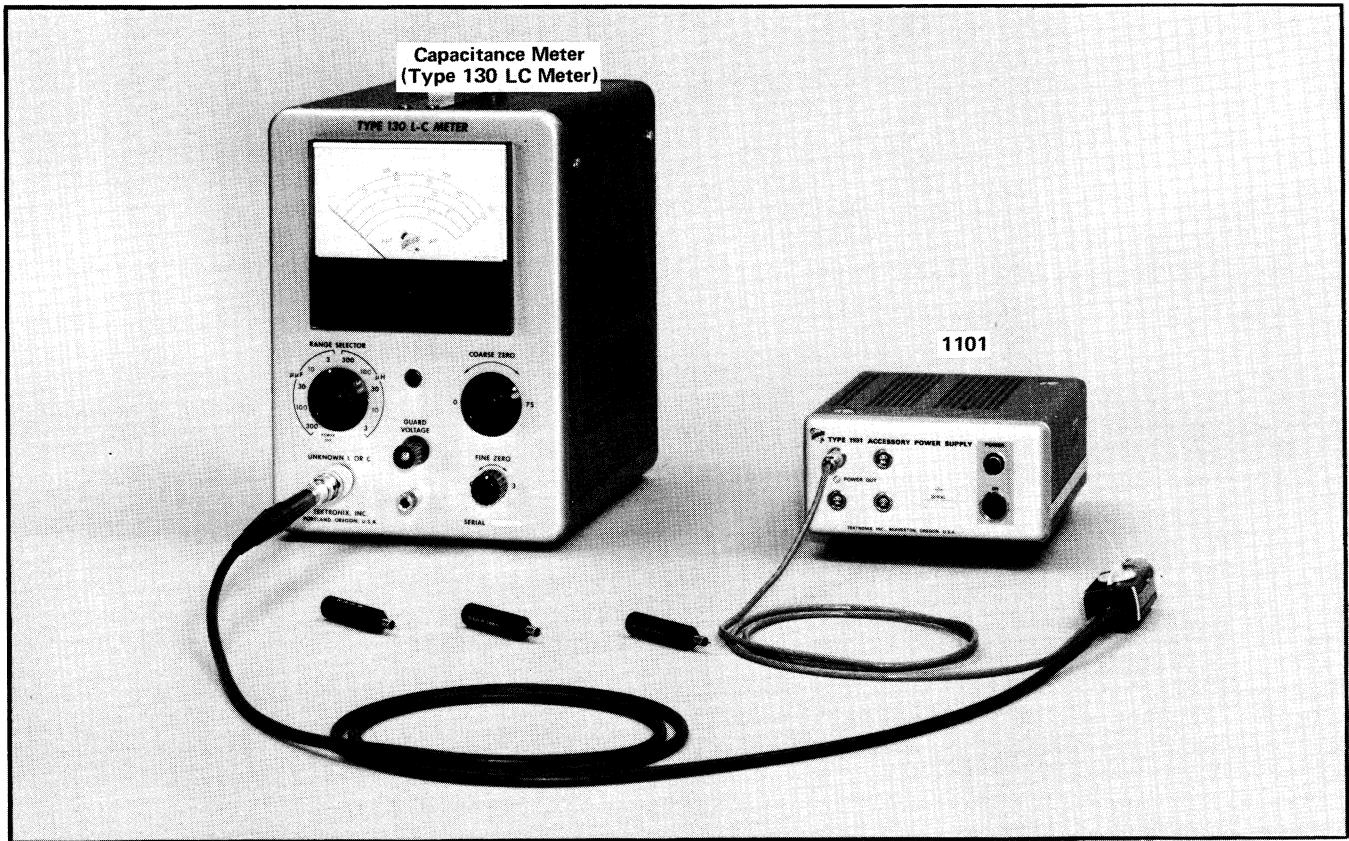

Fig. 5-9. Equipment setup to check input C (step 14).
a. Equipment setup is shown in Fig. 5-9.